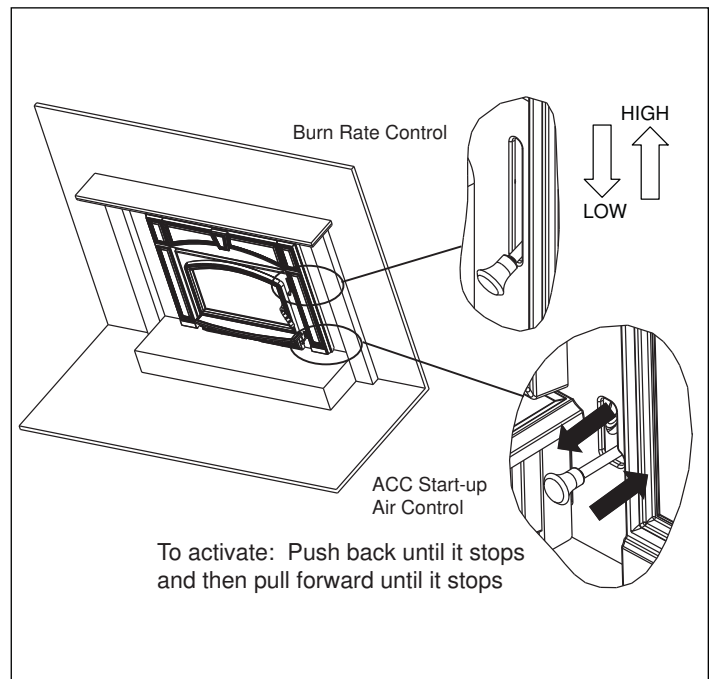

Figure 11.1 Start-up and Burn Rate Air Controls
The air control located at the upper right hand corner is used to adjust for burn rates. This is called the Burn Rate Air Control. **Figure 11.1 on page 11.**
- Push the Start-Up Air Control all the way back until it stops and then pull forward to the front of the appliance until it stops. **Figure 11.1.**
- The fire is now controlled by the air supplied by the Burn Rate Air Control. **Figure 11.1.**
- Push the Start-Up Air Control 3/8 inch (9.5mm) back to allow rear air to enter the firebox. **Figure 11.1.**
- When the control is raised all the way up it is on the High setting and when pushed all the down it is on the Low setting. **Figure 11.1.**